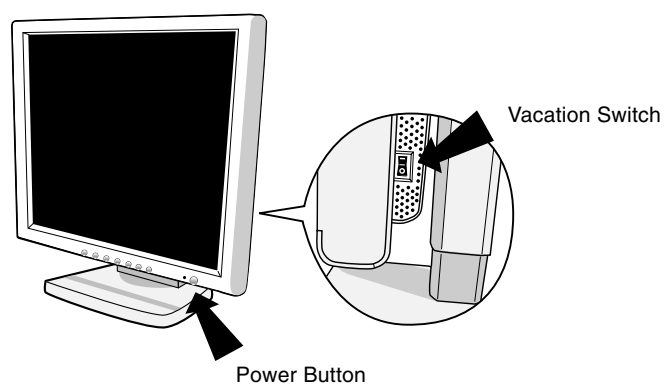

Figure D.1
5. Check the Vacation Switch on the right hand side of the monitor is in the ON position. Turn on the monitor with the Power Button (**Figure D.1**) and the computer.